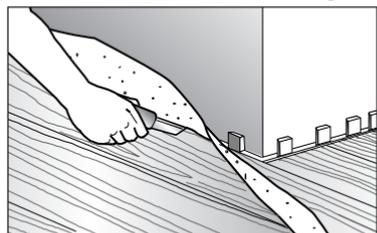

Fig. 17
7. When appropriate, cut the underlayment even with the top of the floor (Fig. 17).